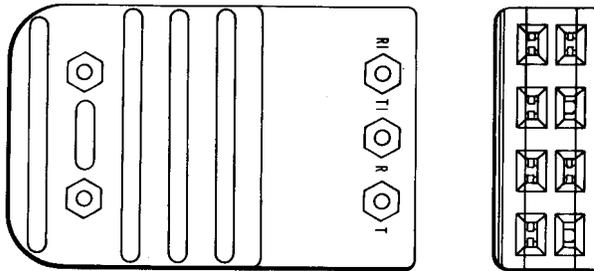

Fig. 11—511A or B Plug
**2.10 511A and B:** The 511A and B plugs (Fig. 11) consist of a molded plastic body with two molded plastic covers containing six contact assemblies. The 511A and B plugs are used in service observing the 4-wire Electronic Switching System (ESS).